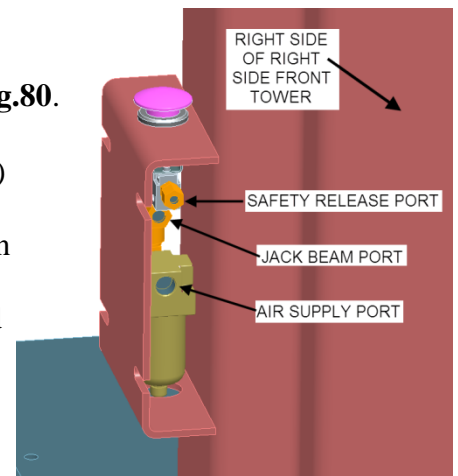
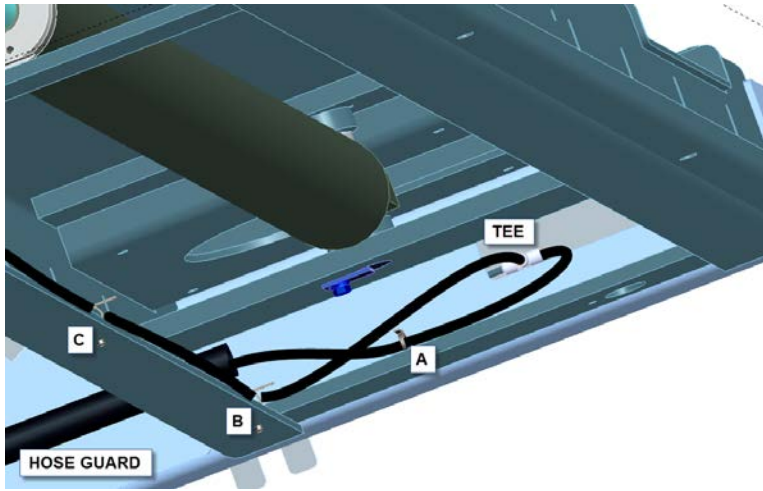
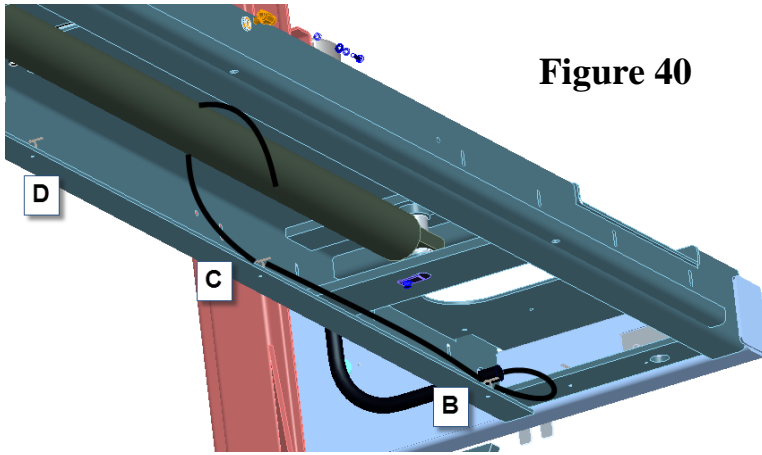

Figure 32
Figure 33
Figure 40
- Install the air valve and filter assembly (found in the accessory box) to the mounting bracket on the power post. Orient air valve assembly as shown in **Fig.32**. For assembly, pull off the pushbutton and unscrew the plastic nut. Slide the assembly into the mounting bracket and re-fasten the plastic nut so that the assembly is attached to the top hole. Replace the pushbutton by pressing it firmly back onto the air valve and filter assembly.
- Cut a 5 ft long piece of polytube (1/4" OD) from the 45 ft coil provided in the accessory box. Attach one end to the 1/8 NPT to 1/4" adapter fitting on the valve assembly (safety release port, see **Fig.32**). Run the other end into the left side deck, thru the cable guard, inside front of LS deck, thru cable tie "A", and connect to the T-fitting found in the window of the front left cross-member (see Fig.33).
- Hook up an air supply to the inlet of the air filter on the air valve and filter assembly located on the front left post (**Fig.32**). Set the air regulator to 90-100 psi if shop air has higher pressure.
- Retrieve the (200 in long) 3/8 in dia. air line from the accessory box. Connect one end to the 3/8” tube port on the valve assembly before shut-off valve (**Fig.32**). Run the air line along the 1/4” air line previously installed, thru the hose guard, down to the front end of the left side deck. Run the 3/8” air line through ties “B” and “C” on the lower left lip of the left side deck. Do not route through tie “D”; instead, pass 3/8” air line over the hydraulic cylinder (see **Fig. 40**) inside the left side deck, and to the push-in 3/8” cable fitting.